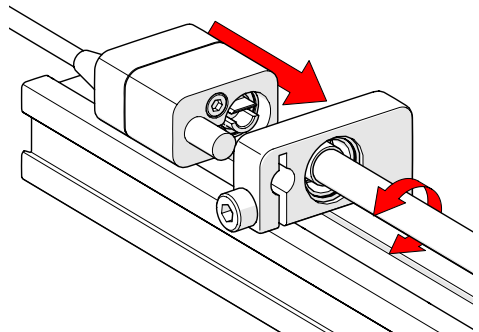

Fig. 65 - Align and mount post
2. Insert the encoder post in the index encoder support bracket while aligning the leadscrew shaft with the encoder socket (Fig. 65).